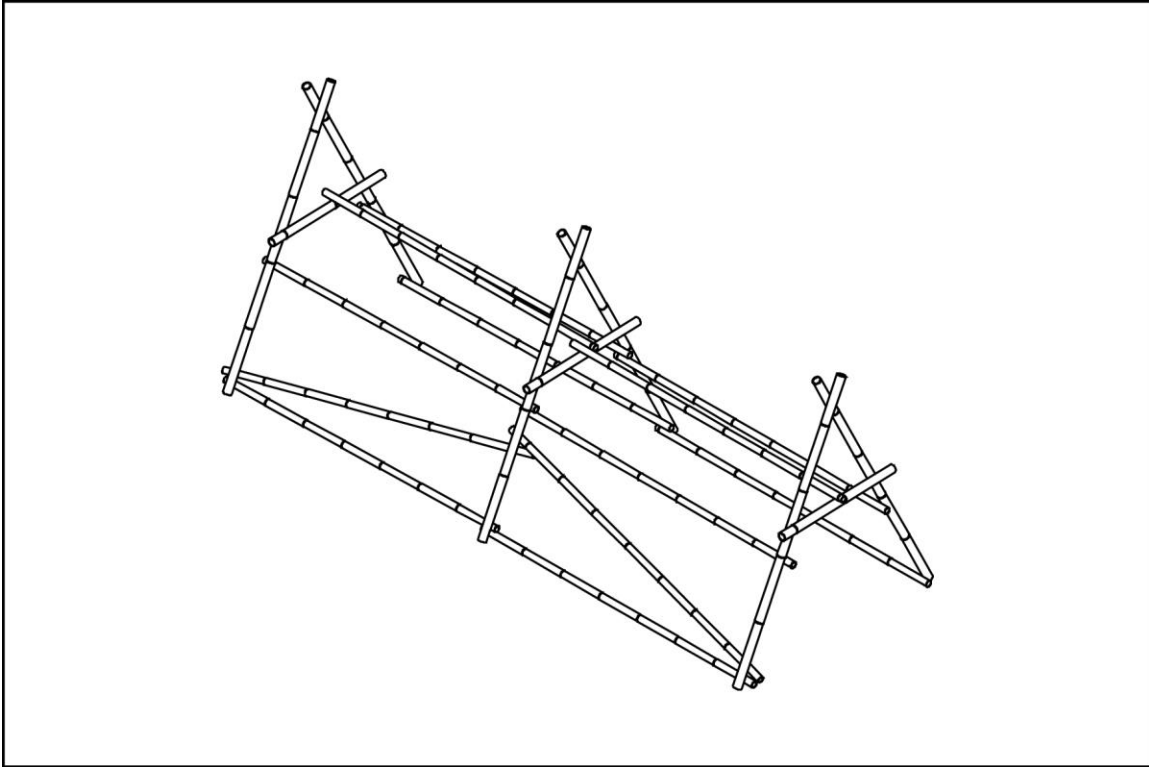

Figure 13: Diagonal bar side A
- ◆ Fix diagonal bars as shown in figures 13 and 14. You should fix bars on both sides but in opposite directions.
- ◆ On one side, one end of both diagonal bars meet at the middle frame, like an *inverted "V"*. See figure 13.